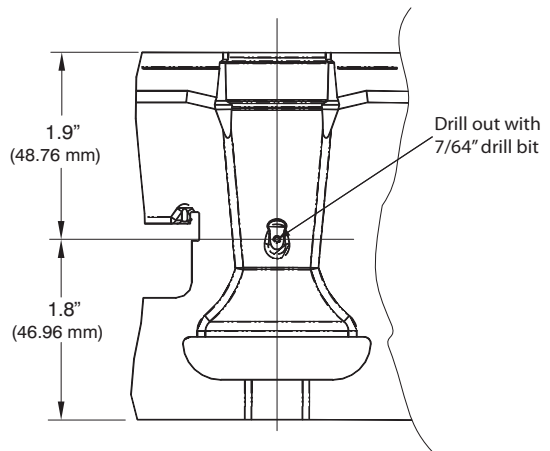

Fig. 8 – Mixer Screw Location
3. If you cannot locate the dimple, refer to Fig. 8 for location of the mixer screw.